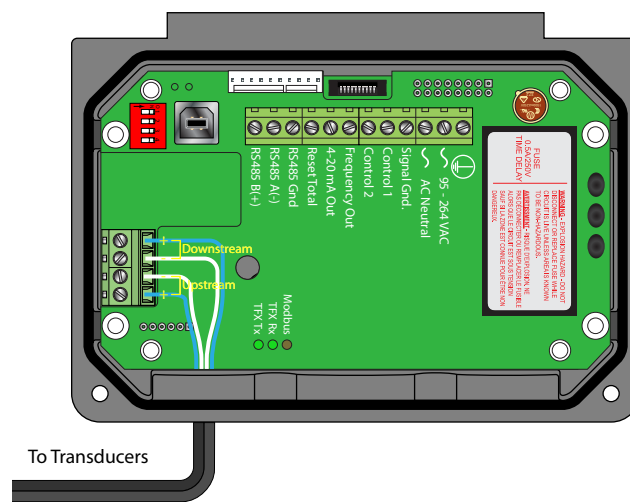

Figure 3: Transducer connections
4. The terminals within transmitter are screw-down barrier terminals. Connect the wires at the corresponding screw terminals in the transmitter. Observe upstream and downstream orientation and wire polarity. See *Figure 3*.